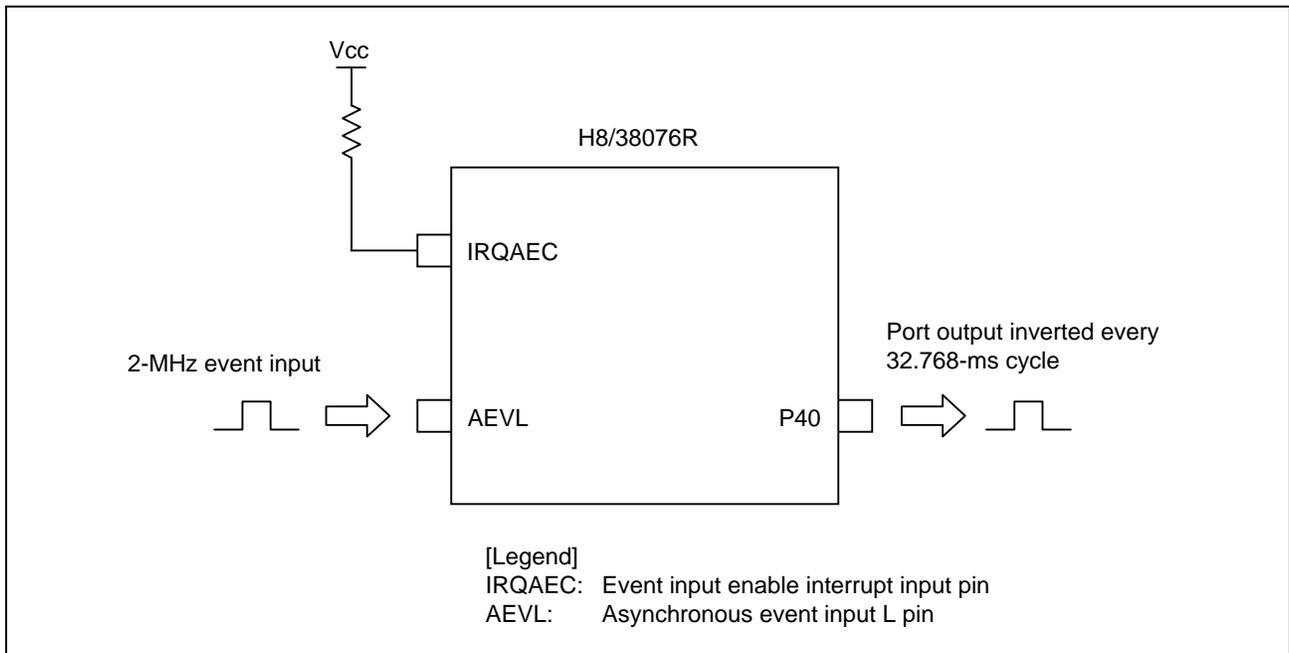

Figure 1 Example of Event Counter Operation in the 16-Bit Mode
- The asynchronous event counter is used in the 16-bit mode to invert the P40 pin output every fixed cycle (32.768 ms), as shown in figure 1.